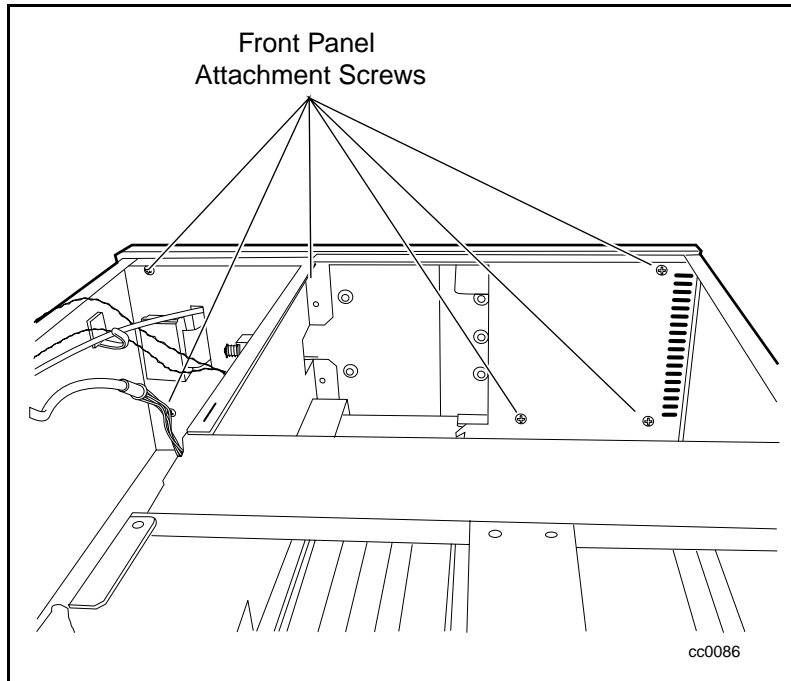

Figure 5-16. Front panel attachment screw locations
2. Remove the six screws that secure the front panel to the Library chassis (see Figure 5-16).
5. Tighten the six screws from inside the Library chassis (see Figure 5-16).